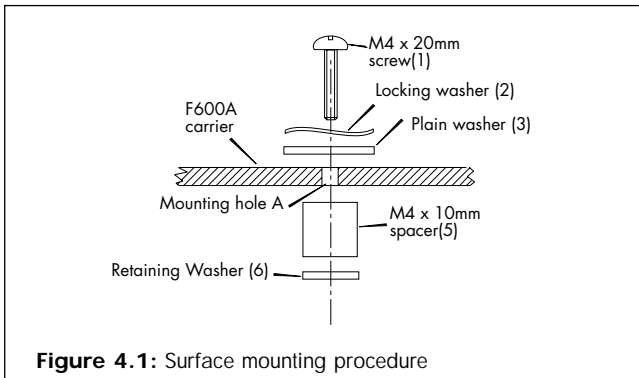

Figure 4.1: Surface mounting procedure
- Place a locking washer (2) and a plain washer (3) over each M4 x 20mm screw (1) (figure 4.1).
- Fit M4 x 10mm spacers (5), retaining them with retaining washers (6) (figure 4.1).